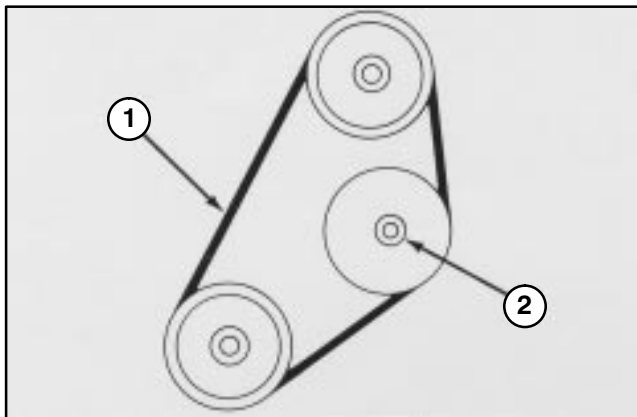

Figure 53
3. Belt should deflect 1/4 in. (6 mm) midway between the pulleys with 5 lb force (22 n) (Fig. 53). If deflection is incorrect, proceed to step 4. If correct, proceed to step 5.
4. Loosen locknut securing idler pulley (Fig. 53). Push idler pulley against belt until proper deflection is achieved and tighten idler pulley locknut (Fig. 53).
2. Loosen locknut securing idler pulley, slide pulley away from belt, and remove belt from top and bottom pulleys (Fig. 53).
3. Install new belt and adjust for proper tension. Push idler pulley against belt until belt deflects 1/4 inch (6 mm) with 5 lb force (22 Nm) midway between top and bottom pulley locknut to secure adjustments (Fig. 53).